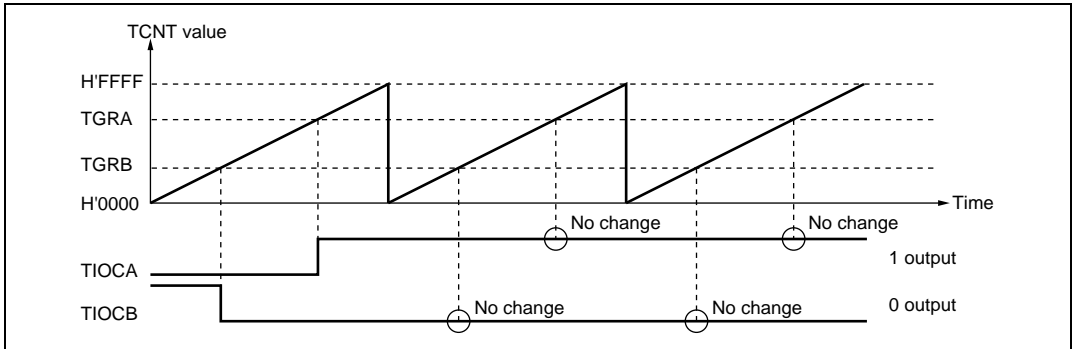

Figure 8.6 Example of 0 Output/1 Output Operation
2. Examples of waveform output operation: Figure 8.6 shows an example of 0 output/1 output.